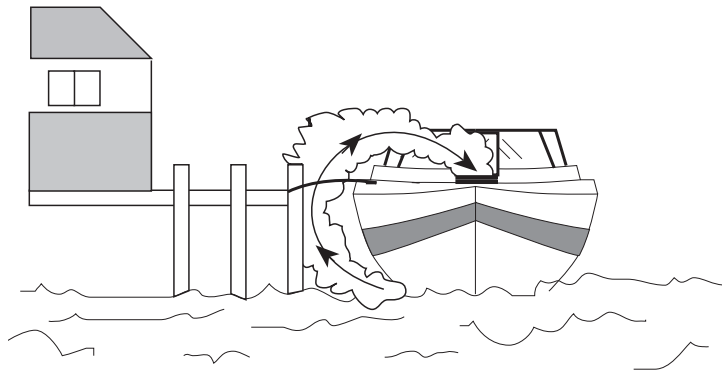

Figure 2.1 Running engine or generator in confined areas
**DANGER:** Blocked hull exhaust outlets near a pier, dock, sea wall bulkhead or any other means can cause excessive accumulation of poisonous carbon monoxide gas within the cabin areas. Make sure hull exhaust outlets are not blocked. (Figure 2.1)